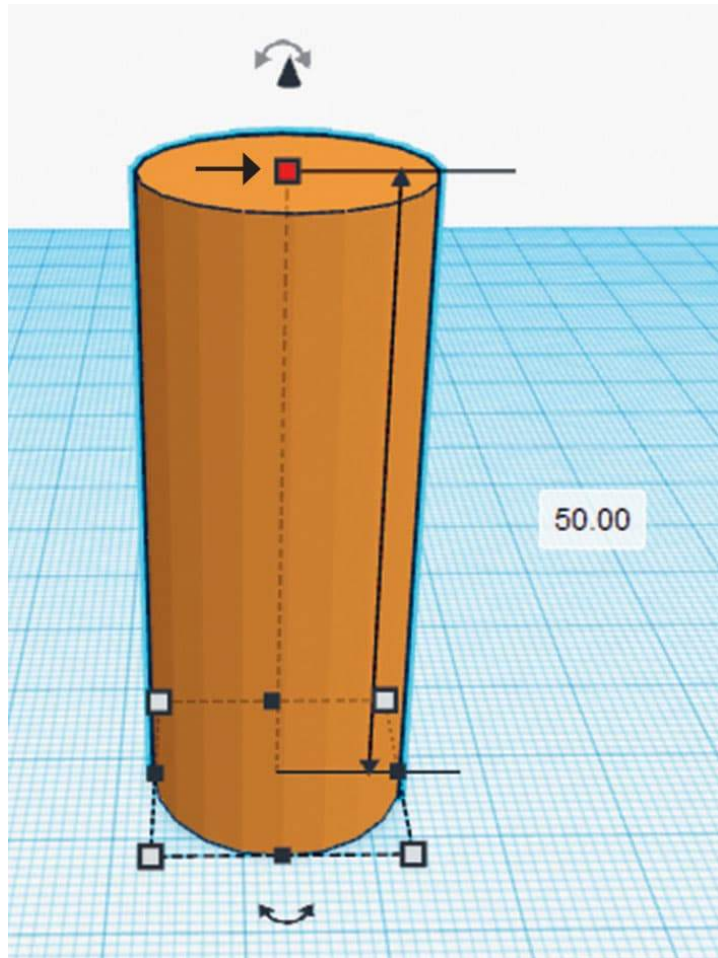

FIG. 3: Click and drag the height button to change the height of the cylinder.
3. Next, modify the size of the cylinder to make it 50 mm tall/high (a stretched cylinder). Click and drag up the white square at the top of the cylinder to adjust height. It will change color to red once you select it (fig. 3).